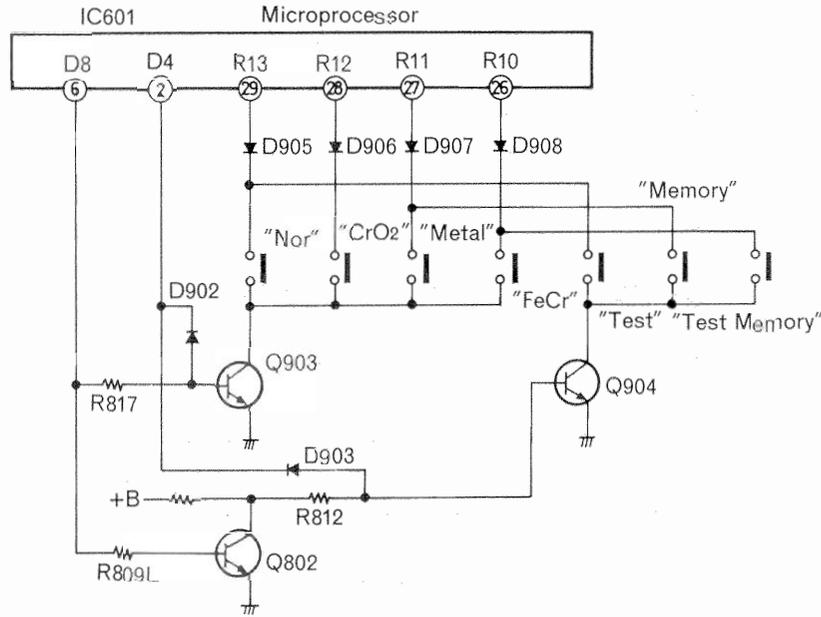

Fig. 13
The relationship between the 7 types of key input and 4-bit key input from the microprocessor are shown in Table 4. They are obtained by synchronizing the L/R selection signal output from D8 of the microprocessor. That is, L/R selection signal is inverted every 20 ms, and Q903, shown in Fig.13, is activated at Hi potential, so the key input shown in Table 4 (Item (1) — (4)) is detected. At Lo potential, Q904 is activated, so the key input shown in Table 4 (Item (5) — (7)) is detected. Q903 and Q904 operate in opposite ways so key input does not overlap. When there are 2 or more key inputs to the 4-bit input, operations are ignored.
Key input terminals R10—R13 are concurrently used as REC equalizer/bias & A/D control data output terminals; key input during output of data is inhibited. Output terminal ② of IC601 shown in Fig. 13 is set to Lo potential during output of data from terminals R10 - R13, Q903 and Q904 are cut off and key input is inhibited.